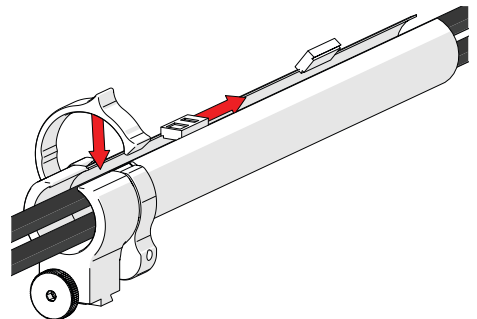

Fig. 54 - Zip up to close
2. Follow the cable placement zipping the tube closed and closing the zipper tube's cable clip (Fig. 54).